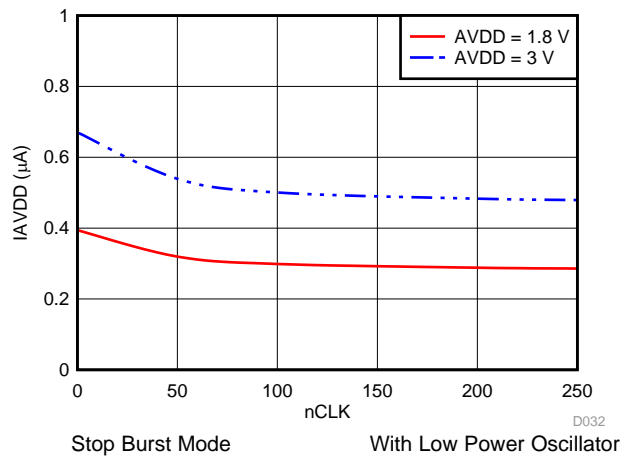
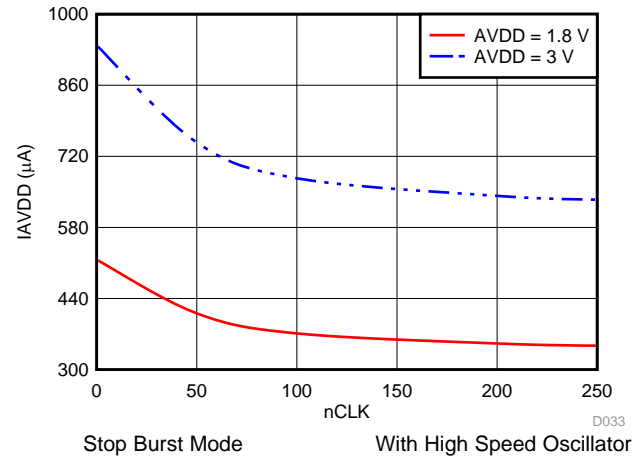
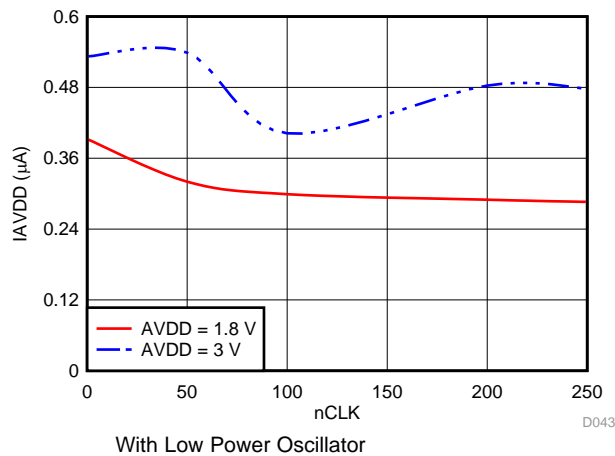
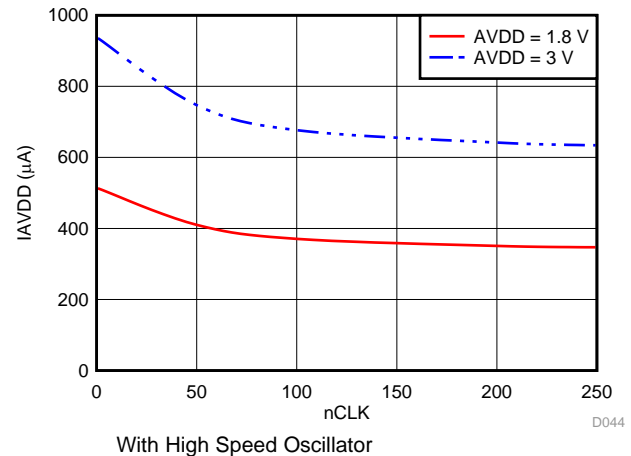

Figure 71. I_{AVDD} in Autonomous Modes with $nCLK$
Figure 72. I_{AVDD} in Autonomous Modes with $nCLK$
Figure 73. I_{AVDD} in High Precision Mode with $nCLK$
Figure 74. I_{AVDD} in High Precision Mode with $nCLK$
- In *Autonomous Modes* and *High Precision Mode*, the balance between sampling speed and power consumption can be obtained by selecting the oscillator for conversion and setting the nCLK value. The device sampling speed and power consumption reduce by increasing the nCLK value. Refer to Figure 71, Figure 72, Figure 73 and Figure 74 for current consumption in Autonomous modes and High Precision mode with different nCLK values.